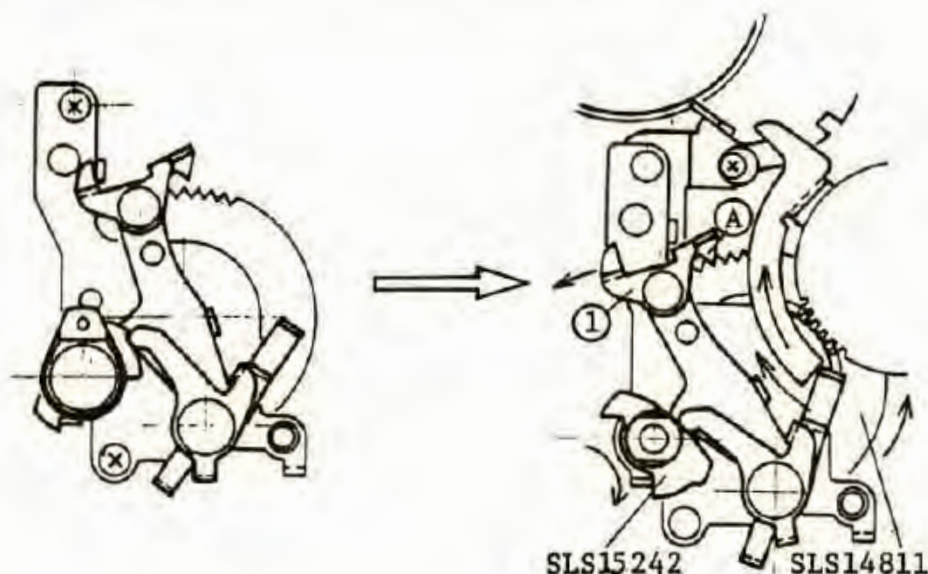
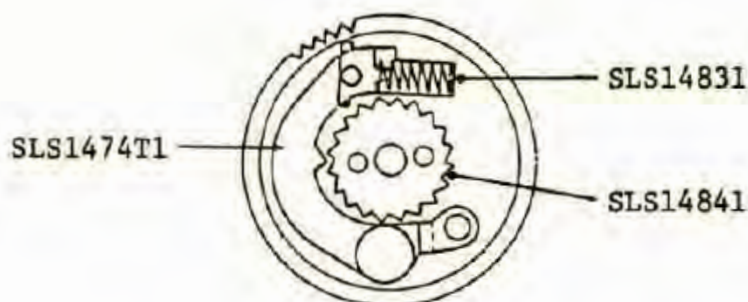

Fig.80
Fig. 81
- 1) When setting the multiple-exposure lever to Multi, the SLS15242 Cam turns about 1/4 turn (90°) in direction shown by the arrow in Fig. 80.
- 2) As the ①-Lever moves in direction shown by the arrow, the F.clutch wheel is turned counterclockwise by ①-pawl engages with the SLS 14811 F.clutch wheel.
- 3) The SLS1474T1 Clutch in the F.clutch wheel moves in direction shown by the arrow. Consequently, it is detached from the SLS14841 Ratchet gear as shown in Fig. 81.